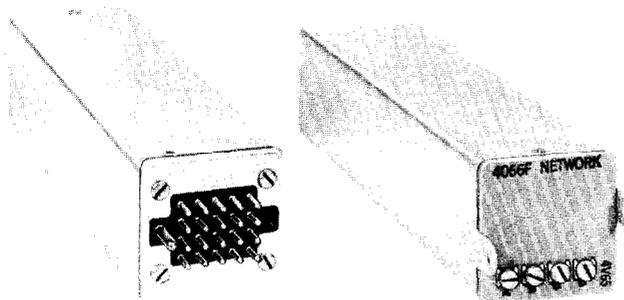

Fig. 1 — 4066F Network
2.01 The 4066F network (see Fig. 1) consists of an aluminum can containing a printed circuit board, a 20-pin connector plug, and a plastic faceplate which contains four screw-type switches. The network is approximately 1-3/4 inches high by 1-3/4 inches wide by 7 inches long. Tabs are provided on the front of the can to facilitate removal of the network from the mounting shelf socket through the use of a 602C or a 602D tool.